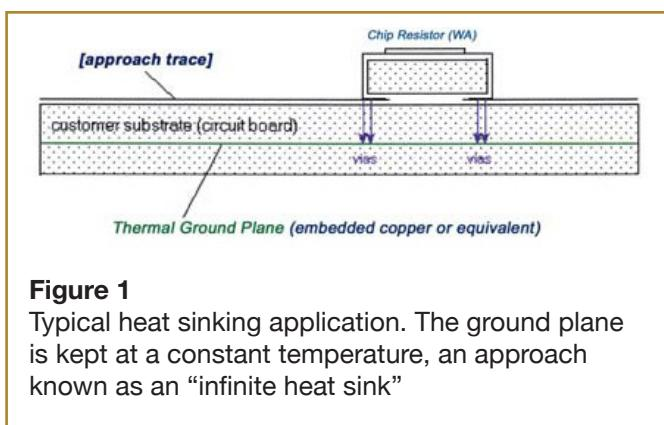

Figure 1
If the resistor is mounted to a surface that does not conduct heat well, such as a different ceramic, FR-4, or another circuit board material, ALN’s advantage disappears. A sufficient and typical method by which most manufacturers provide a heat sink or thermal ground is shown in **Figure 1**.
1. Replace the 2512 chip with an ALN 2512 chip, and maintain the temperature of the baseplate at a constant 120°C or cooler. This may be achieved with an arrangement similar to Figure 1. An even cooler temperature (cooler than 120°C) would allow the chip to dissipate even more than 10W; or,